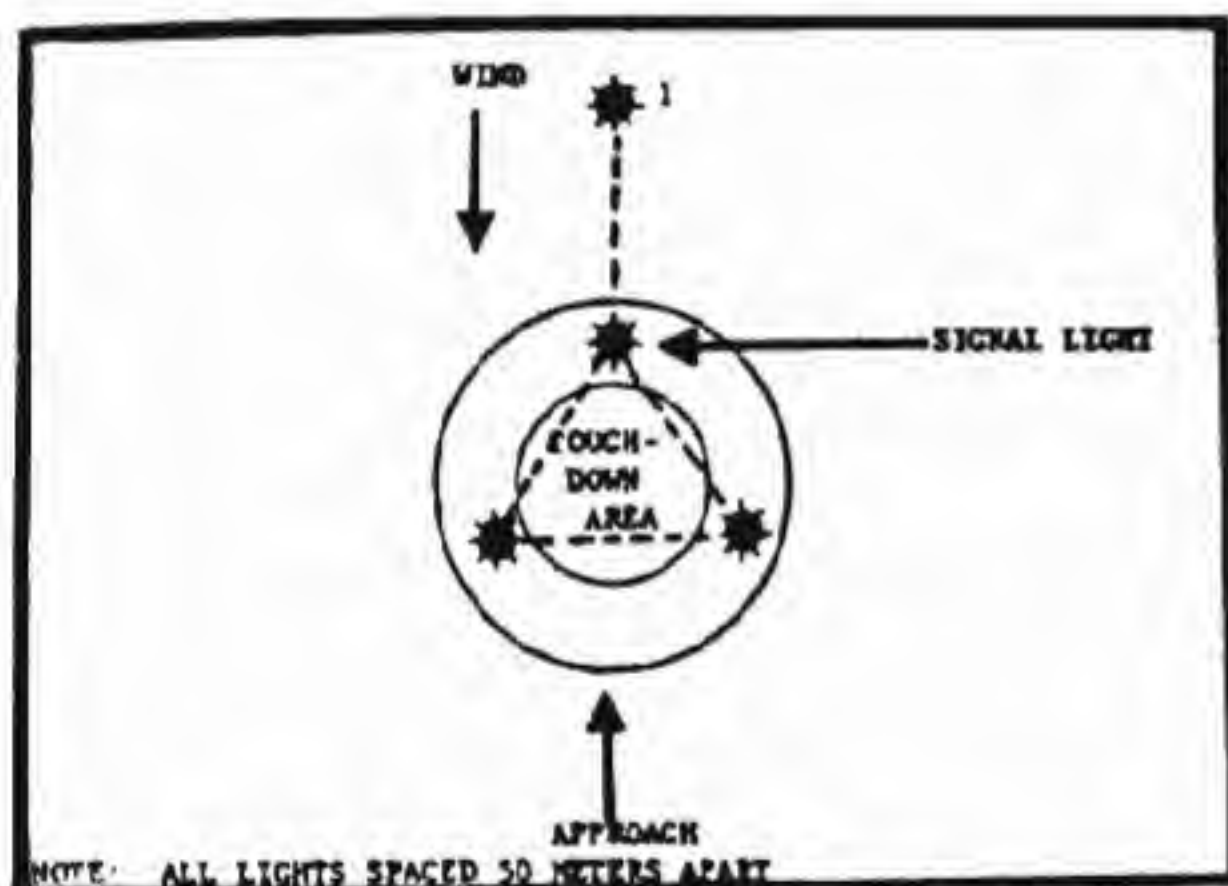

Figure 21. Marking of landing zones for use by rotary-wing aircraft.
(1) LZ's for rotary-wing aircraft are marked to:
(2) Equipment and techniques of marking are similar to those used with fixed-wing DZ's, lights or flares at night, smoke and panels in daylight.
(3) An acceptable method of marking is the "Y" system. This uses four marker stations (Figure 21).